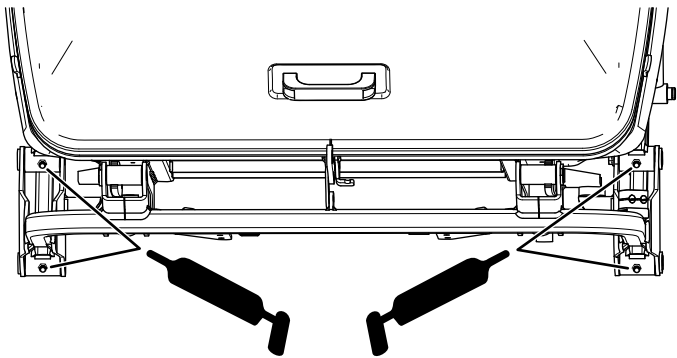

Figure 49
- Hopper arms—lower, rear (Figure 49)